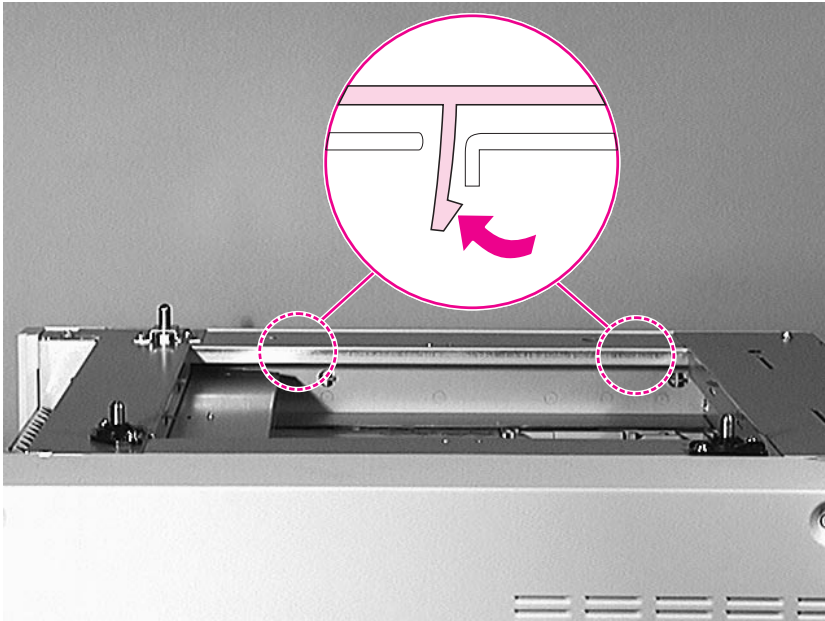

Figure 6-91 **Front Top Cover (2 of 3)**
- 4 From inside of the unit release the central tabs, as shown in figure 6-91.